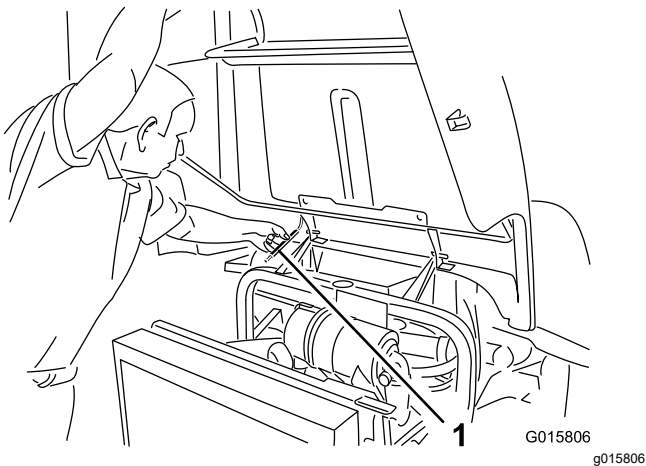

Figure 65
2. Lift up the hood until you can position the prop rod behind the frame tube (Figure 65).